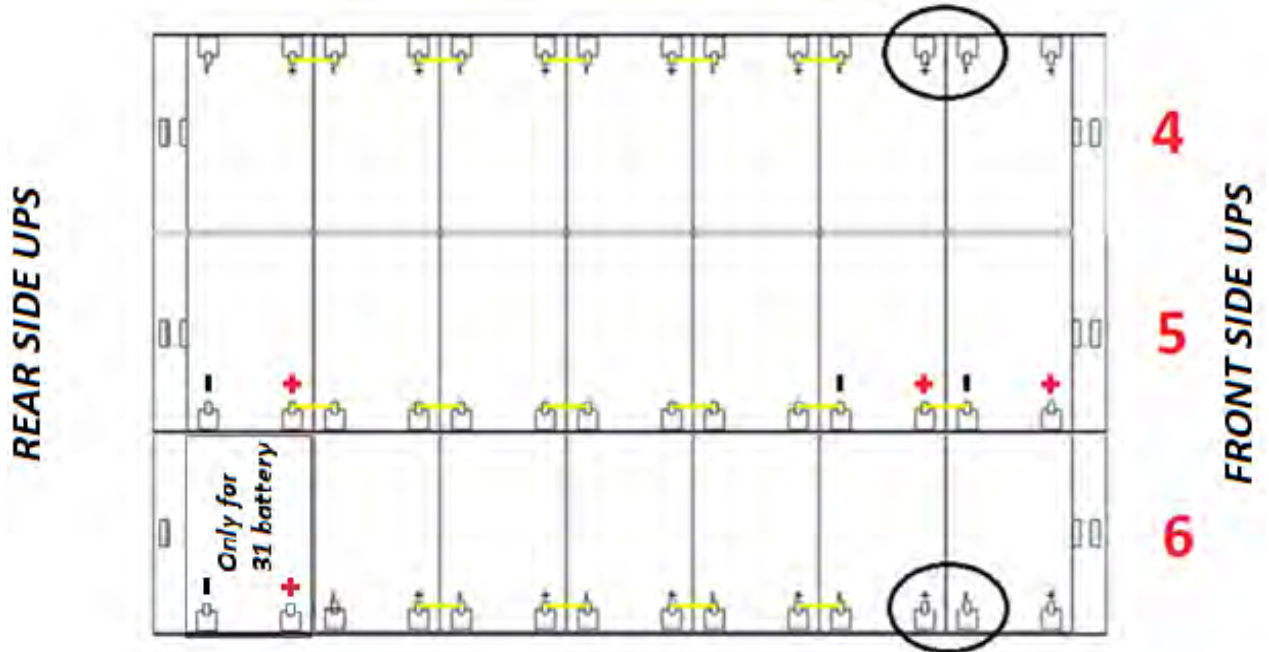

Figure 33 - View from above Level No.2
7) On Level no. 2, insert trays no. 4-5-6 in compliance with the position as demonstrated in Figure 33.